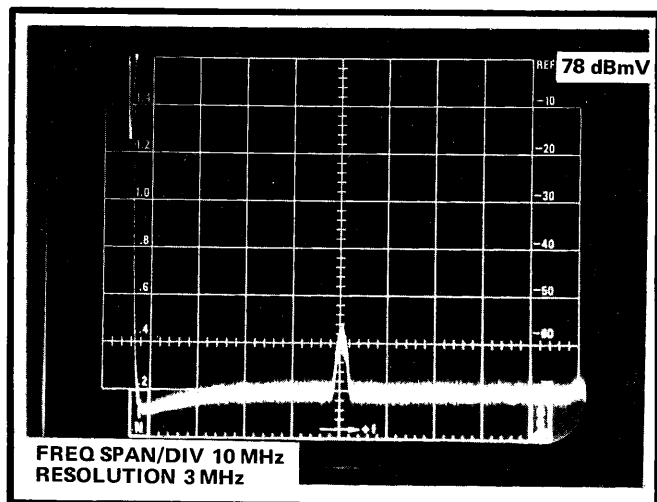

Fig. 3-2. Measuring sensitivity. Signal level = 2X noise.
c. Check that the amplitude of the signal is at least twice the noise level (≥ 2 div). See Fig. 3-2.